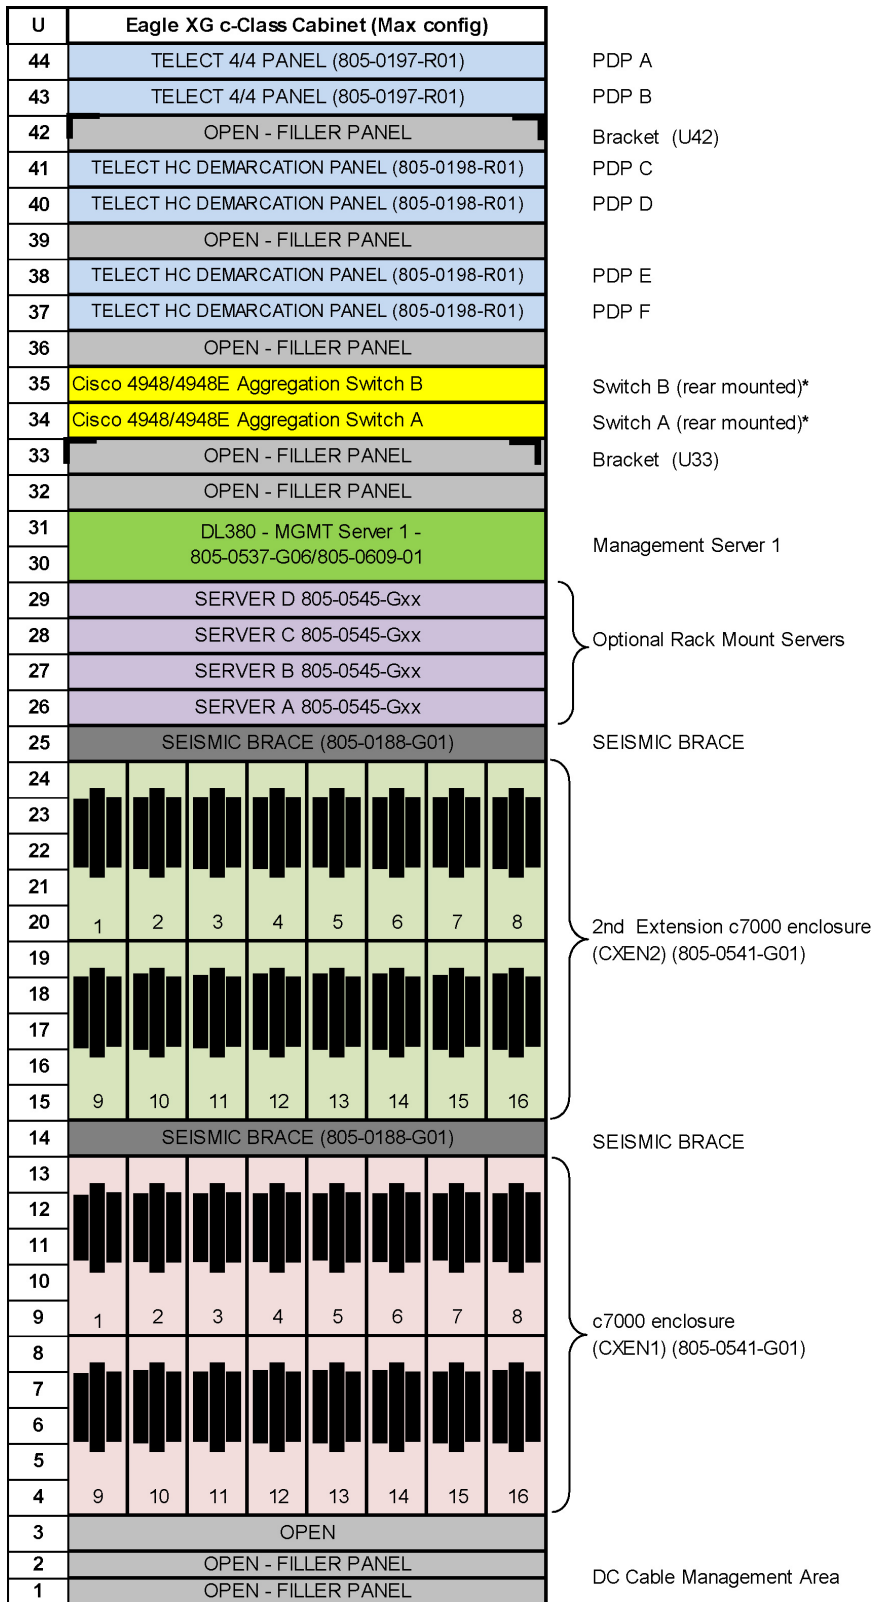

Figure 3: Example of a DC cabinet with Cisco 4948-4948E
- Figure 3: Example of a DC cabinet with Cisco 4948-4948E